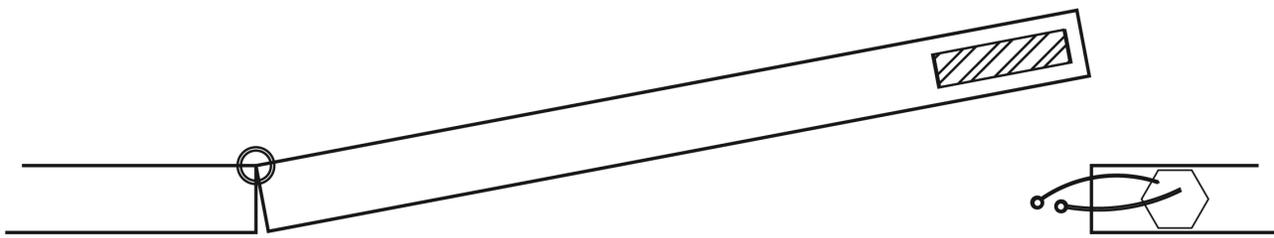

Figure A1-2
9. Consider that if a door normally remains open, Figure A1-2 displays the type of device could you design to turn the alarm on when it closed.